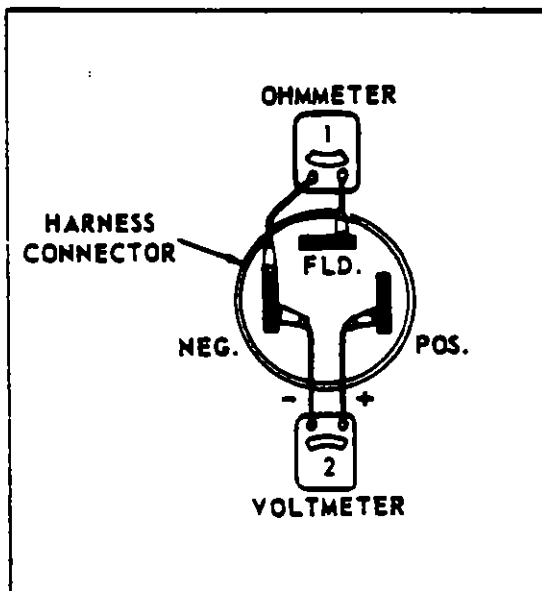

FIGURE 9-24. VOLT - OHMMETER TEST
a. Check the alternator field resistance with an ohmmeter as shown in Step 1, Figure 9-24 and note the reading. Make sure the master switch is OFF. Readings of less than 2 ohms, or more than 8 ohms indicate a defective field winding in the alternator or a defective wiring harness. If the reading is within the 2 to 8 ohm range, check the reading against the allowable resistance in the circuit which can be calculated by dividing the specified voltage for the alternator by the
b. With switch turned ON, connect voltmeter as shown in Step 2, Figure 9-24. Make sure positive (+) and negative (-) voltmeter leads are connected as shown.